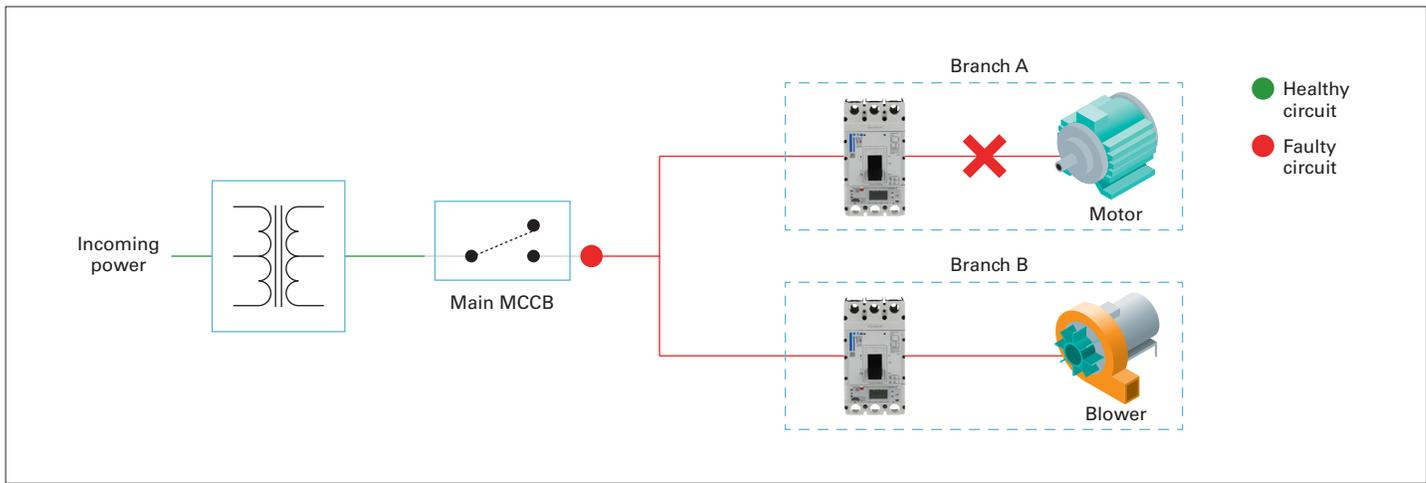

Figure 1. Electrical system without selective coordination
**Figure 1** shows an electrical system that is not selectively coordinated as the fault in Branch A interrupts the entire system, causing shutdown to the load connected in Branch B.